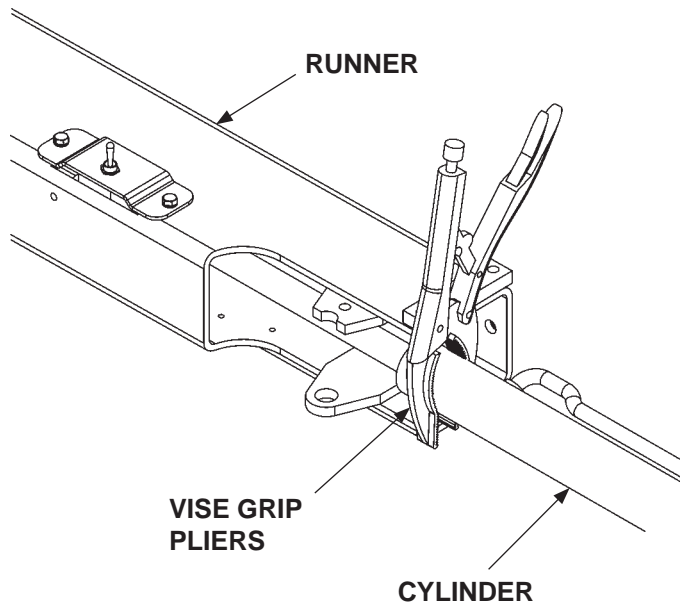

FIG. 30-2
21. Clamp large round jaw vise grip pliers at mark on cylinder (FIG. 30-2). Line up with top of runner.